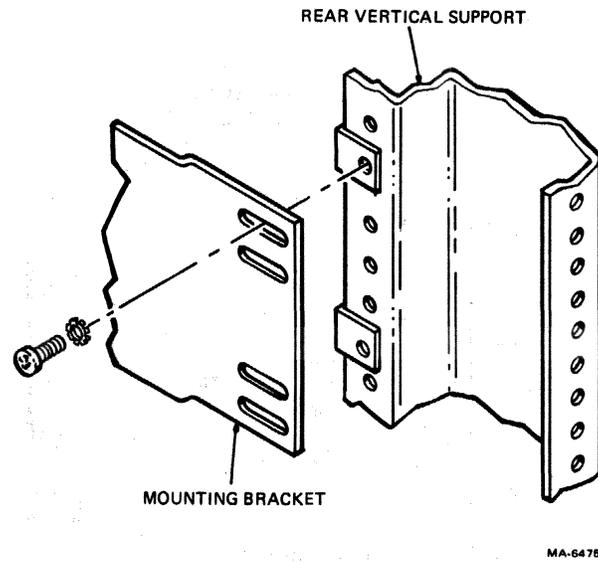

Figure 4-6 Rear Vertical Support U-Nut Retainers
5. Open the back of the rack. Attach four U-Nut retainers to the rear vertical rails (Figure 4-6).
9. For DIGITAL racks, fasten the mounting brackets to the rear vertical rails (Figure 4-6). For non-DIGITAL racks, fasten the mounting brackets to the support bracket extenders (Figure 4-7).